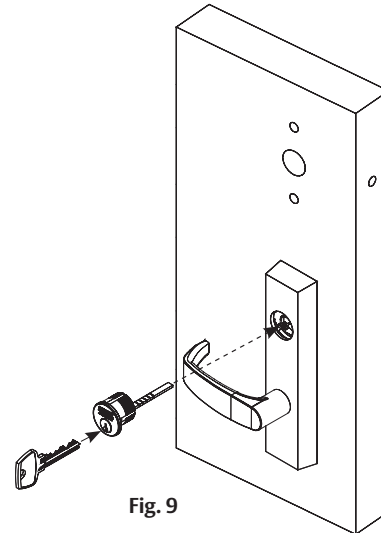

Fig. 9
5. Install cylinder. (Figures 9, 10)